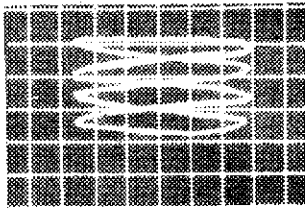

Figure 6a: Reference 2 octaves above Oscillator being calibrated
- 8) VCO #1 SCALE - Press the lowest C (left-most key) and adjust the front panel PITCH control for a stable lissajous indicating that the frequency of the #1 oscillator is two octave below the reference oscillator as shown in figure 6a.
When you now press the lowest C again, you will undoubtedly find that the display is spinning. Readjust the front panel PITCH control to produce a stable display as in figure 6a, and once again press the high C and re-adjust R12. Continue this procedure of hitting the low C and adjusting PITCH and the high C and adjusting R12 until a satisfactorily stable display appears at both keys.
- 9) KEYBOARD TRANSCOPE - Press the lowest C on the keyboard and verify a stable display as in figure 6a. If necessary, adjust the front panel PITCH control for maximum stability.